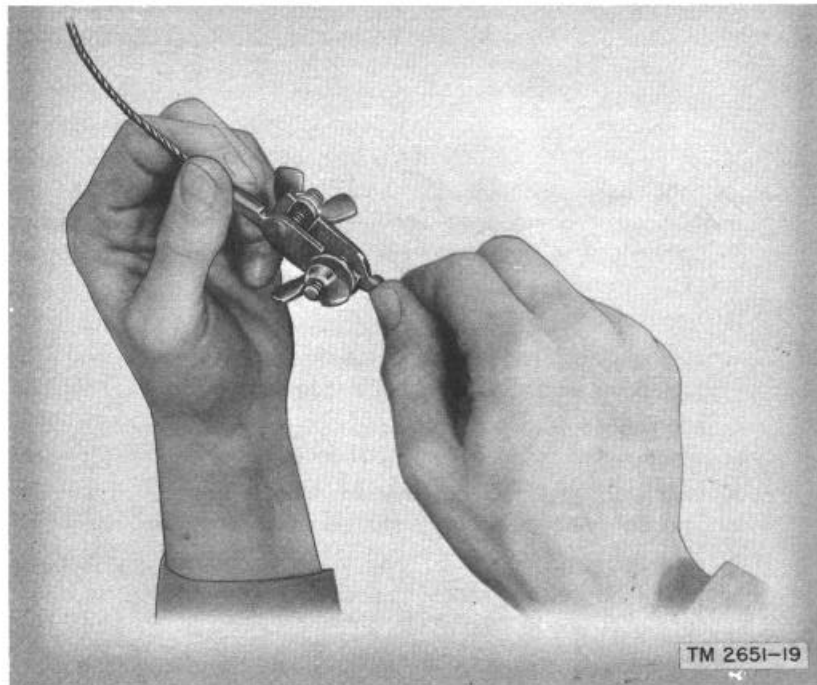

Figure 20. Connecting antenna wire from two reel assemblies.
- (b) The L-type antenna is not recommended for use on frequencies higher than 5.8 mc. For frequencies above 3.1 me, one antenna reel is used. For frequencies lower than 3.1 mc, remove the wire from one reel and connect it in series with the wire on a second reel to make up the required length (fig. 20).
- (e) Unwind the antenna wire until the length from one halyard fastener to the other is one-half wave length (table II). If necessary, use the wire from two reels by removing the wire from one reel and attaching it to the wire on a second reel (fig. 20).